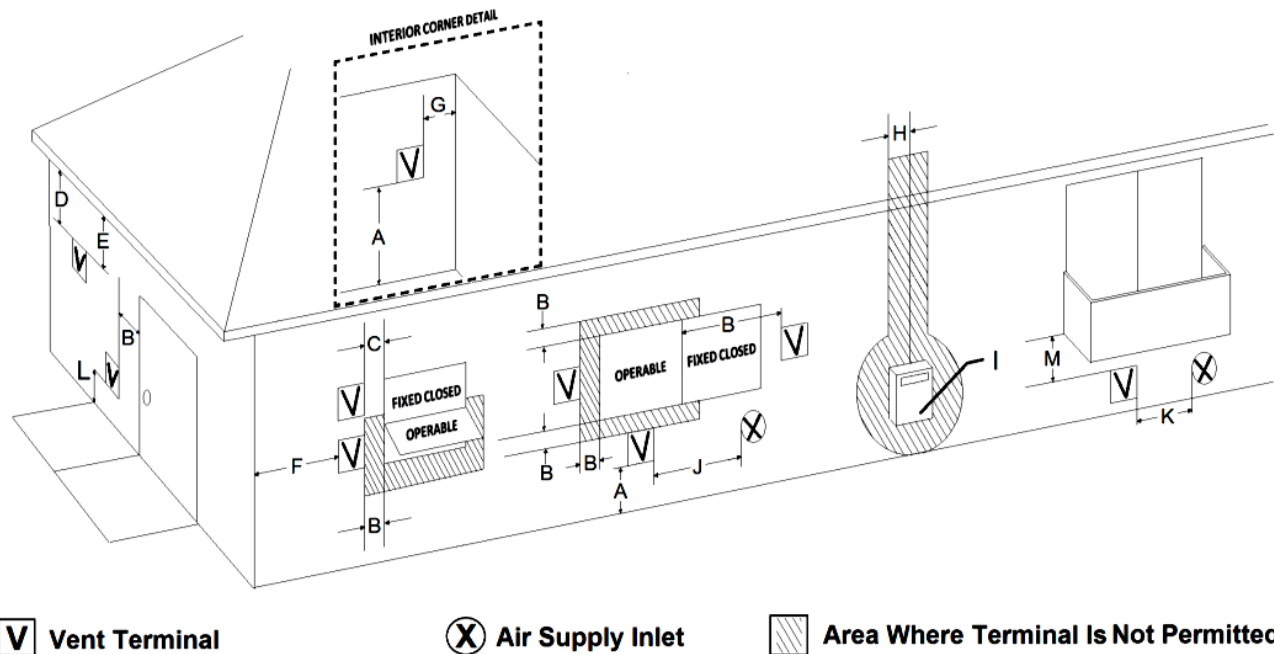

Figure 17 - Acceptable Direct Vent Terminal Vent Cap Locations
- 🔥 The termination must fall within the chart in Figure 17.
- 🔥 All horizontal terminations must also comply with the clearance specifications to adjacent structures outlined in Figures 17 & 18.